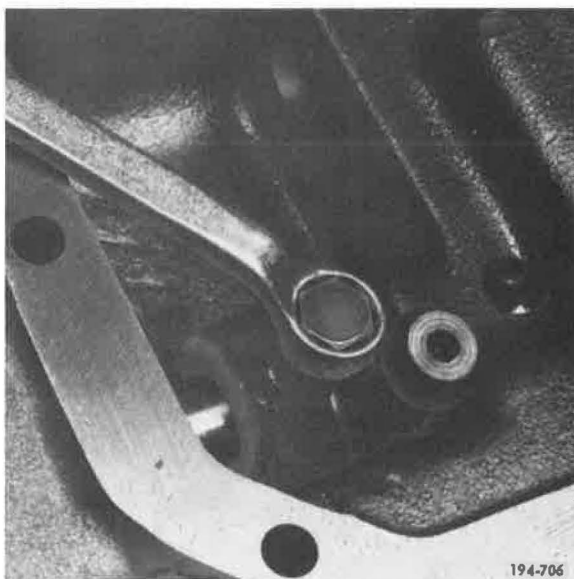

Figure 186. Removing Setscrew
18. Remove Hi/Direct shifter set-screw. See Figure 186.